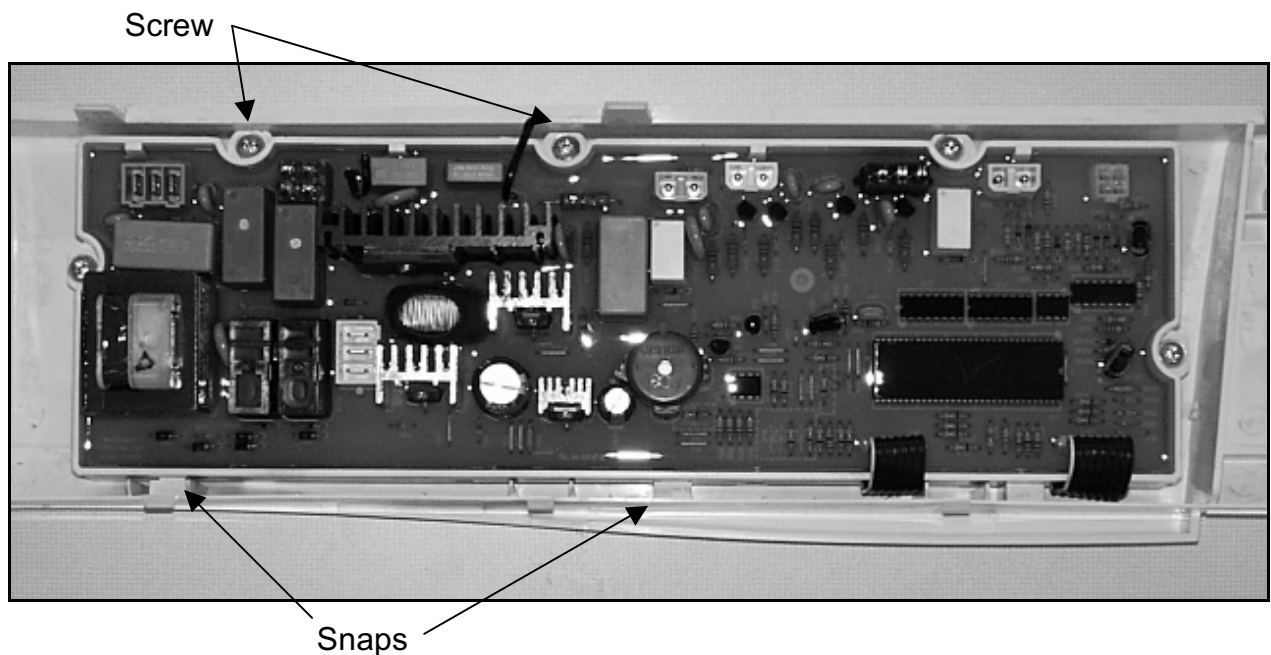

Figure-11b
- The controller is pulled up from screwed side and released from slots that hold the controller (Figure-11b)